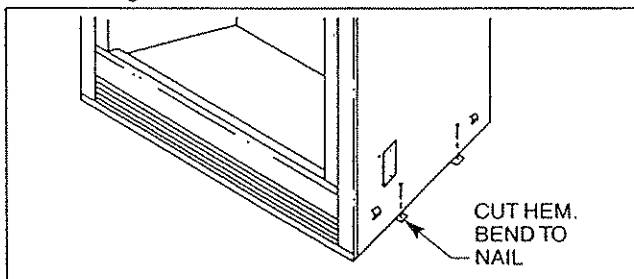
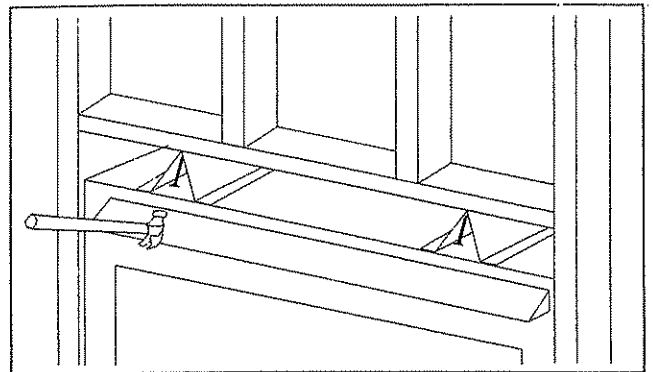

Fig. 11. Permanent positioning using bottom fastening tabs.
Fig. 12. Permanent positioning using the standoffs. Locate the gas line access hole in the left outer casing of the fireplace. (See Fig. 13.)
To prevent the unit from shifting, the appliance should be anchored. Two (2) methods are possible: Use bottom fastening tabs as shown in Fig. 11, or use the standoffs on the top of the appliance. A nail may be driven through the standoff at the front of the appliance into the header as shown in Fig. 12.